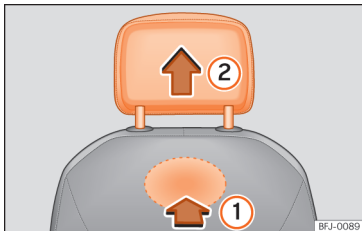

Fig. 109 Front headrest: removal.
- To unlock it, look for the rabbit on the bottom of the backrest and press in the direction of the arrow » Fig. 109 ①.
- Remove the headrest in the direction of the arrow ②.